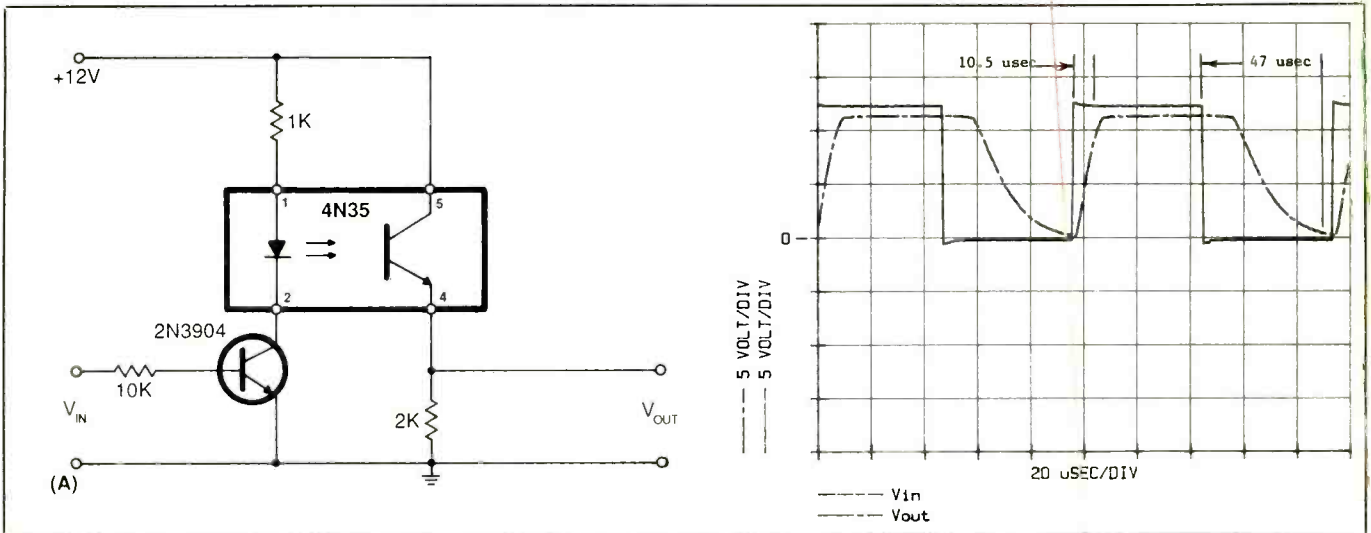
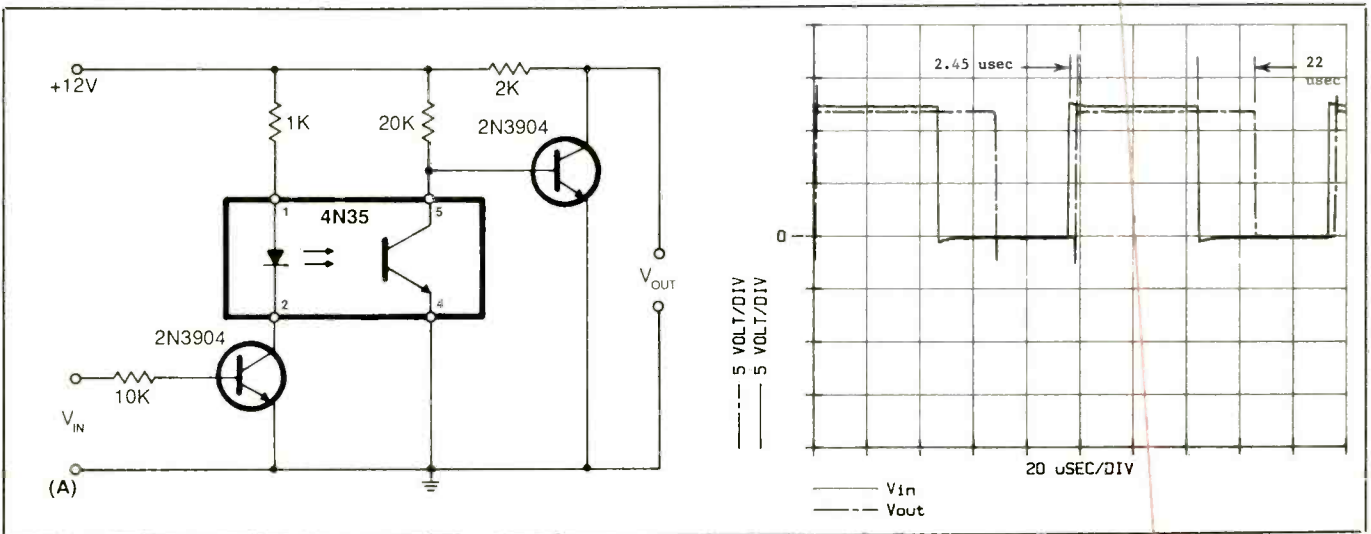
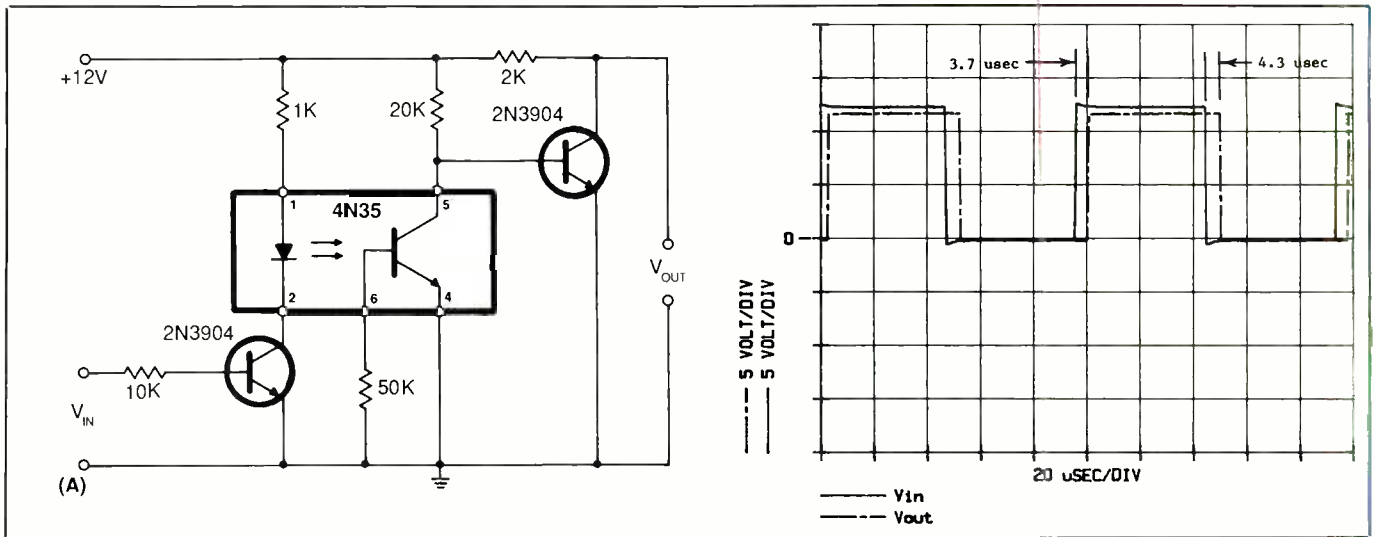
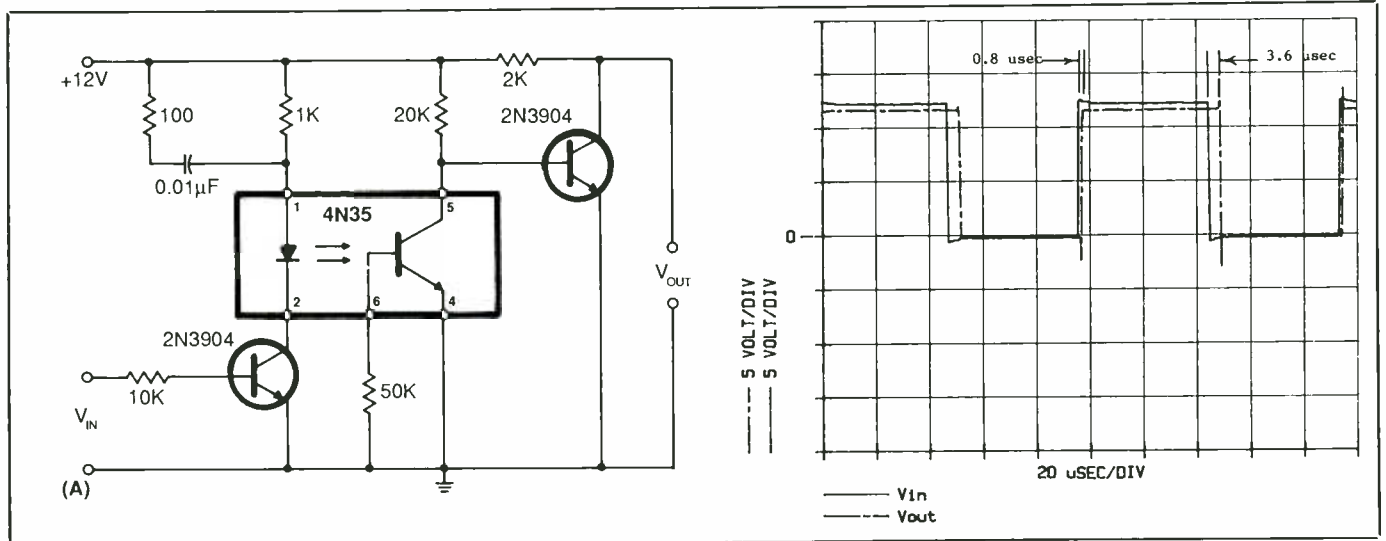

Fig. 6. Schematic of an unassisted 4N35 optoisolator circuit (A) and its switching-speed response (B).
Fig. 7. Adding an output transistor to a 4N35 (A) increases switching-speed time over unassisted circuit (B).
Fig. 8. A 50k-ohm resistor in base-emitter circuit (A) improves turn-on and turn-off times of 4N35 (B).
Fig. 9. Adding 100-ohm resistor and 0.01-microfarad capacitor to optoisolator's LED circuit (A) restores photo-
To demonstrate how a typical low-cost optoisolator performs, let us conduct an experiment using the commonly available 4N35 device. Assuming the circuit for this experiment is as shown in Fig. 6(A), a 10-kHz signal is applied at V_{in} and
For the circuit shown in Fig. 6(A),
the length of time needed for turn-on was 10.5 microseconds, and the time for turn-off was 47 microseconds, as illustrated in Fig. 6(B). Notice here how the output waveform has the characteristic shape of a charging and discharging capacitor in an RC circuit.
Trying to improve switching speed, you can add an output transistor to the circuit, as shown in Fig. 7(A). With this stage added, IR energy from the 4N35's internal LED strikes
As illustrated in Fig. 7(B), this extra output stage shortens switching time for turn-on down to 2.45 microseconds, a big difference from the 10.5-microsecond time of the unassisted Fig. 6(A) circuit. It also shortens the turn-off time down to 22 microseconds, compared to the 47-micro-second time for the unassisted circuit.
The circuit in Fig. 8(A) is the same as that in Fig. 7(A), except that a 50,000-ohm resistor has now been added between the base and emitter of the phototransistor inside the 4N35. This resistor provides a path for the collector-base capacitor of the phototransistor to discharge and provides a dump for the excess electrons that caused the hard-saturation condition in the Fig. 8(A) circuit.
Addition of the 50,000-ohm resistor changes switching response time to 3.7 microseconds for turn-on and 4.3 microseconds for turn-off, as illustrated in Fig. 8(B). Turn-on time has now been increased by 1.25 microseconds over that for the Fig. 7(A) circuit because the sensitivity of the phototransistor has been spoiled somewhat by this resistor. Photon-generated current must now be used to turn on the output transistor, supply the 50,000-ohm load and charge the phototransistor's collector-base capacitor. Turn-off time has been improved by 17.7 microseconds, however. This improvement is well worth the slight loss in turn-on speed that was the penalty of adding the 50,000-ohm resistor.
In Fig. 9(A), a circuit has been added to the LED side of the 4N35 optoisolator to regain the lost phototransistor sensitivity during the turn-on period. This sensitivity is regained by "blasting" a current that is ten times the steady-state current into the internal LED for a sufficient period of time to get the phototransistor turned on.
This change helped to restore the short turn-on time of the Fig. 8(A) circuit, as illustrated in Fig. 9(B).